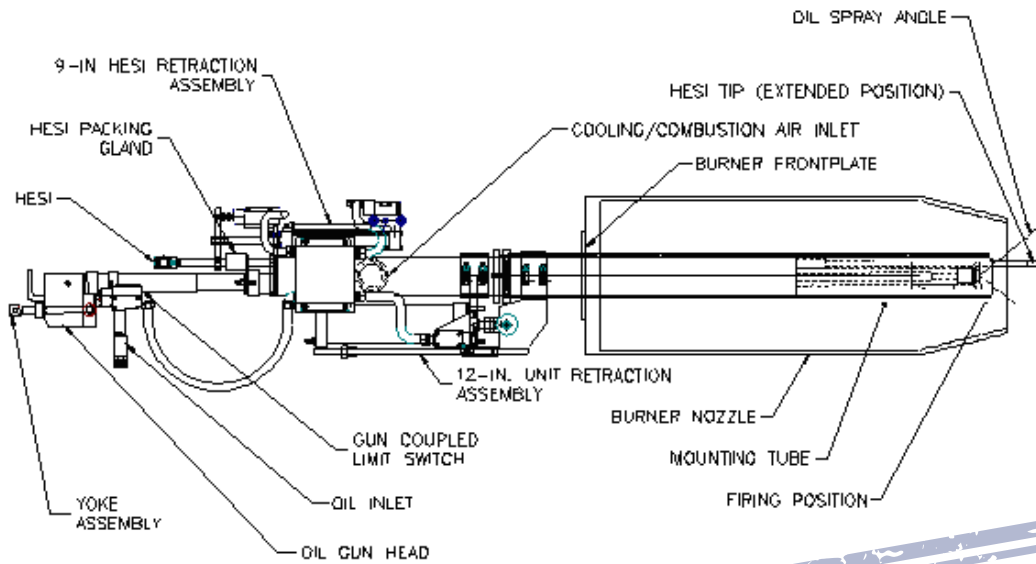
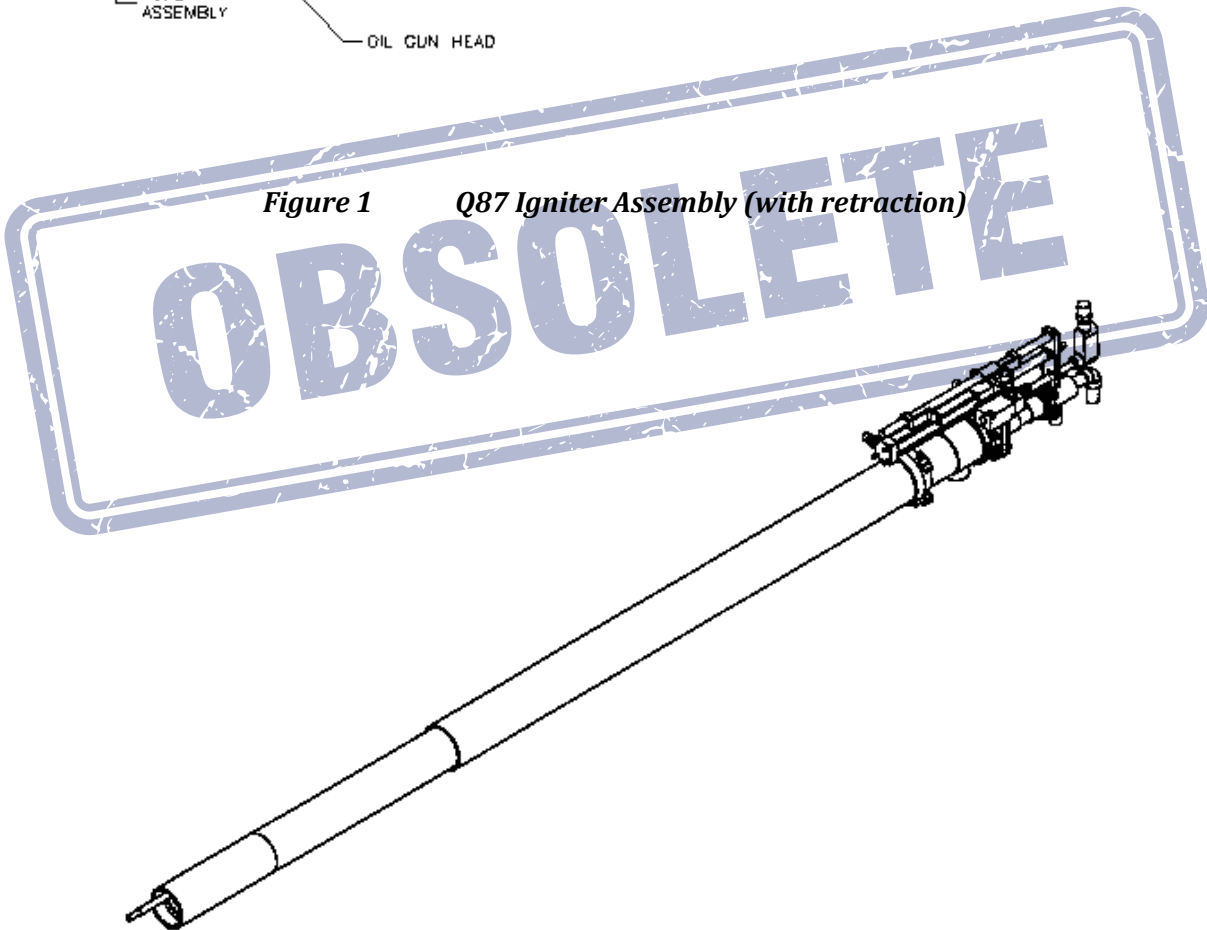

Figure 1 Q87 Igniter Assembly (with retraction)
Figure 2 Q87 Igniter Assembly (without retraction)
The Forney Q87 Igniter (Figure 1) is a versatile and reliable source of ignition energy and support for coal, oil, or gas burners. The Q87 Igniter features repeatable fuel ignition and stable flame front. The Q87 Igniter is NFPA-rated as a Class 1, 2, or 3 Igniter, depending on the application: Class 1 (Continuous Igniter) is used for light-up and support under all conditions; Class 2 (Intermittent Igniter) is used for light-up and support under prescribed light off conditions; and class 3 (Interrupted Igniter) is not intended for warm-up or support. A heat input range from 8.0 to 30.0 MBtu/hr makes the Q87 Igniter well suited for boiler warm-up or main flame ignition and stabilization.
The major components of the Q87 Igniter are a mounting tube, guide tube assembly, fuel gun, and HESI. A factory-mounted junction box is standard, with all onboard electrical devices wired to the terminals. Figure 1 shows a typical oil-fired Q87 assembly with retraction. Figure 2 shows a Q-87 assembly without retraction.
1. Inspect the diffuser area for damage, cleanliness, and proper HESI spark rod position. The HESI spark rod is factory set and should not need adjustment. If necessary, refer to Figure 2 for HESI spark rod tip settings.